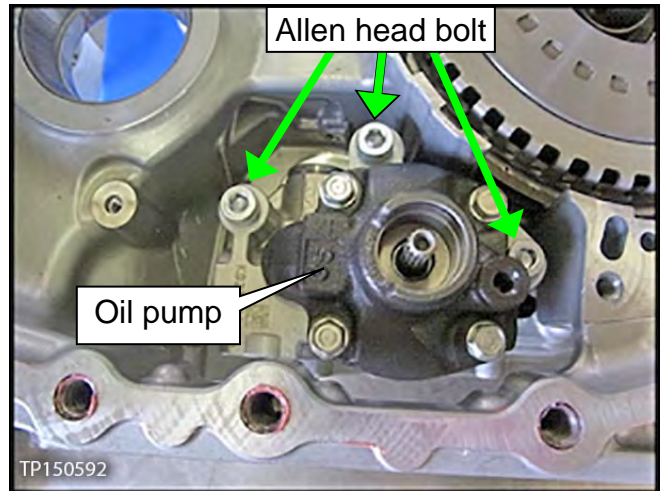

Figure 62
3. Install the new oil pump using the three (3) Allen™ head bolts (see Figure 62).